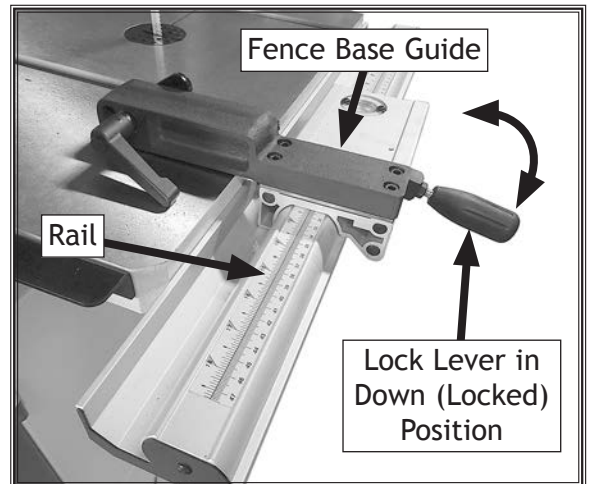

Figure 28. Fence base installed on fence rail.
- Place fence base guide on fence rail with lock lever raised up. Push lock lever down to secure fence in place (see **Figure 28**).